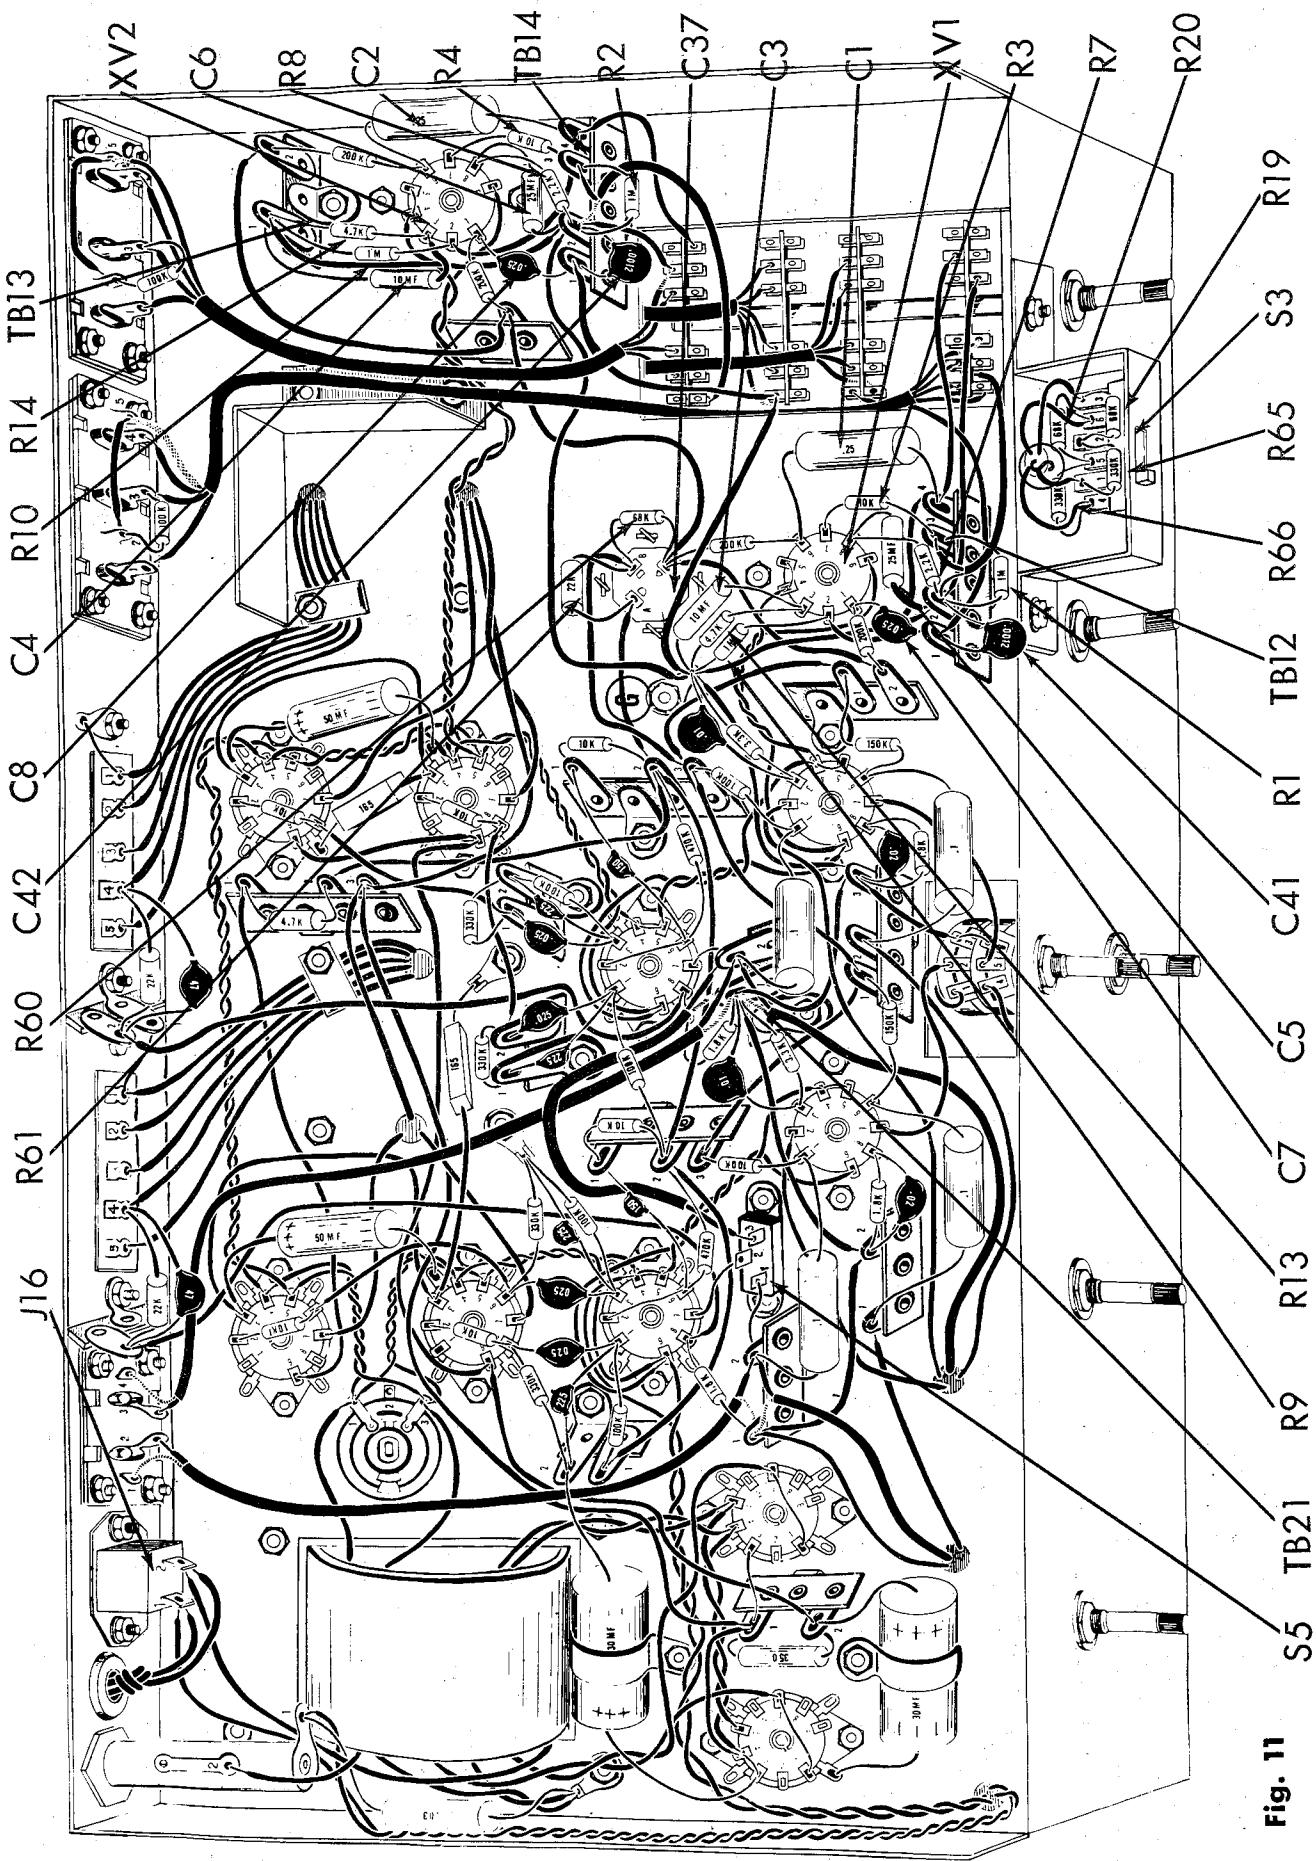

Fig. 11
1. (✓) Fig. 11. Cut all leads on two 25 mfd electrolytic capacitors, C5 and C6, to 1" and cover each with a 3/4" piece of spaghetti. Connect the positive (+) end of C5 to XV1-8 (C) and the negative (-) end to TB14-2(C). Connect the positive (+) end of C6 to XV2-8(C) and the negative (-) end to TB14-2(C).
2. (✓) Fig. 11. Cut all leads on two 2.2K $\Omega$  (red, red, red, silver) resistors, R7 and R8, to 3/4" and cover each lead with a 1/2" piece of spaghetti. Connect R7 from XV1-8 (S2) to TB12-2 (C). Connect R8 from XV2-8 (S2) to TB14-2 (C).
3. (✓) Fig. 11. Cut the ground end (if the capacitor is so marked with a line) of two .25 mfd paper capacitors, C1 and C2, to 1". (If it is not marked, cut either end to 1".) Connect this end of C1 to XV1-6 (S2) and this end of C2 to XV2-6 (S2). Cut the other end of both capacitors to 3/4". Connect this end of C1 to TB12-4 (S3) and this end of C2 to TB14-4 (S3).
4. (✓) Fig. 11. On two 10K $\Omega$  (brown, black, orange, silver) resistors, R3 and R4, cut one lead to 1/2" and the other lead to 3/4". Connect the 1/2" lead of R3 to XV1-7 (S1) and the 3/4" lead to TB12-3 (C). Connect the 1/2" lead of R4 to XV2-7 (S1) and the 3/4" lead to TB14-3 (C).
5. (✓) Fig. 11. Cut both leads on two 1M $\Omega$  (brown, black, green, silver) resistors, R1 and R2, to 1/2". Connect R1 from TB12-3 (S3) to TB12-2 (C). Connect R2 from TB14-3 (S3) to TB14-2 (C).
6. (✓) Fig. 11. Cut all leads on two .0012 mfd (1.2K or 1200 mmf) disc capacitors, C41 and C42 to 1/2". Connect C41 from TB12-1 (C) to TB12-2 (S7). Connect C42 from TB14-1 (C) to TB14-2 (S8).
7. (✓) Fig. 11. Cut all leads on two .025 mfd (25K or 25,000 mmf) disc capacitors, C7 and C8, to 3/4". Connect C7 from XV1-1 (S2) to TB12-1 (S3). Connect C8 from XV2-1 (S2) to TB14-1 (C).
8. (✓) Fig. 11. Cut all leads on two 10 mfd, 6 volt electrolytic capacitors, C3 and C4, to 3/4". Cover each lead with a 1/2" piece of spaghetti. Connect the positive (+) end of C3 to XV1-3 (C) and the negative (-) lead to ground lug "G" (C). Connect the positive (+) end of C4 to XV2-3 (C) and the negative (-) lead to TB13-1 (C).
9. (✓) Fig. 11. Cut both leads on one 4.7K $\Omega$  (yellow, violet, red, silver) resistor, R14 to 1/2" and both leads on a second 4.7K $\Omega$  resistor, R13, to 3/4". Connect R14, (with the shorter leads) from XV2-3 (S2) to TB13-1 (C). Connect R13 (with the longer leads) from XV1-3 (S2) to ground lug "G" (C).
10. (✓) Fig. 11. Cut all leads on two 1M $\Omega$  (brown, black, green, silver) resistors, R9 and R10, to 3/4". Cover both leads with a 1/2" piece of spaghetti. Connect R9 from XV1-2 (S2) to ground lug "G" (C).. Connect R10 from XV2-2 (S2) to TB13-1 (S4).
11. (✓) Fig. 11. Cut both leads on a 22K $\Omega$  (red, red, orange, silver) 1 watt resistor, R61 to 3/4". Connect from C37-A (S2) to C37-B (C).
12. (✓) Fig. 11. Cut both leads on a 68K $\Omega$  (blue, grey, orange, silver) resistor, R60, to 1/2". Connect from C37B (S3) to C37C (S4).
13. (✓) Fig. 11. Cut all leads on two 68K $\Omega$  (blue, grey, orange, silver) resistor, R19 and R20 to 1/2". Connect R19 from S3-2 (C) to S3-3 (C). Connect R20 from S3-5 (C) to S3-6 (C).
15. (✓) Fig. 11. From hole "S" connect the white lead to S3-6 (S2), the brown lead to S3-4 (S2), the blue lead to S3-3 (S2) and the green lead to S3-1 (S2).
17. (✓) Fig. 11. Connect the brown lead from S1F-8 to TB14-1 (S3).
18. (✓) Fig. 11. Connect the black lead from S1F-6 to ground lug "G" (S9).
19. (✓) Fig. 11. Connect a 1" piece of bare wire from S5-2 (S1) to XV5-7 (S1).
20. (✓) Fig. 11. Strip back the outer insulation on both ends of a 5" piece of single conductor cable 1/2". Twist the shield strands. Strip back the insulation on the inner conductor on both ends 1/4". On one end, cut the shield strands and connect the inner conductor to S5-3 (S1). On the other end, connect the twisted shield strands to TB21-1 (S8) and the inner conductor on the same end to TB21-2 (S5).
21. (✓) Fig. 11. Mount the top shield as shown in insert on figure 4. Use two #6 lockwashers and two #6-32 hex nuts.